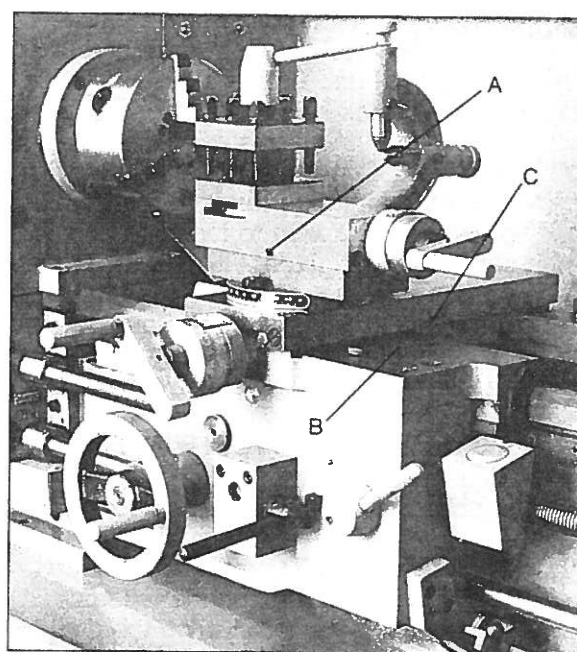

Fig. 11
9. **Compound Rest Lock (A, Fig. 11)** – set screw located on side of compound rest. Turn clockwise to lock and counter – clockwise to unlock.
10. **Carriage Lock (B, Fig. 11)** – hex socket cap screw located on top rear of carriage body. Turn clockwise and tighten to lock. Turn counter – clockwise and loosen to unlock. **Caution:** carriage lock screw must be unlocked before engaging automatic feeds or damage to lathe may occur.
11. **Cross Slide Lock (C, Fig. 11)** – set screw located on side of cross slide body. Turn clockwise and tighten to lock. Turn counter – clockwise and loosen to unlock. **Caution:** cross slide lock screw must be unlock before engaging automatic feeds or damage to the lathe may occur.